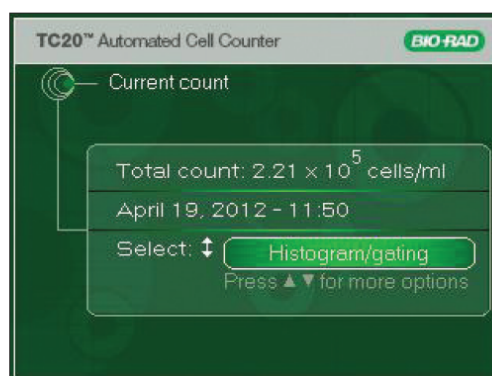

Fig. 10. Inserting the counting slide into the TC20 cell counter.
1. Simply inserting a counting slide into the slide slot of the TC20 cell counter will automatically initiate a cell count (Figure 10). The chambers are labeled A and B, with an arrow next to each chamber to indicate the direction of slide insertion. Make sure that the slide is completely inside the slide slot; otherwise the instrument does not detect the slide and counting does not start. Make sure the slide is inserted right side up.